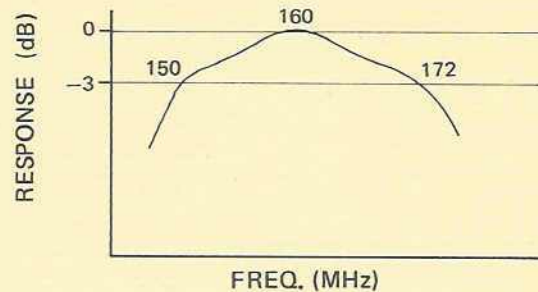

FIGURE 12.
Step 2: Adjust T8, 9, 10 and L1 for maximum output similar to the Figure 12 curve. This curve should be dropping down by about -3 dB for CH 5 to 7.